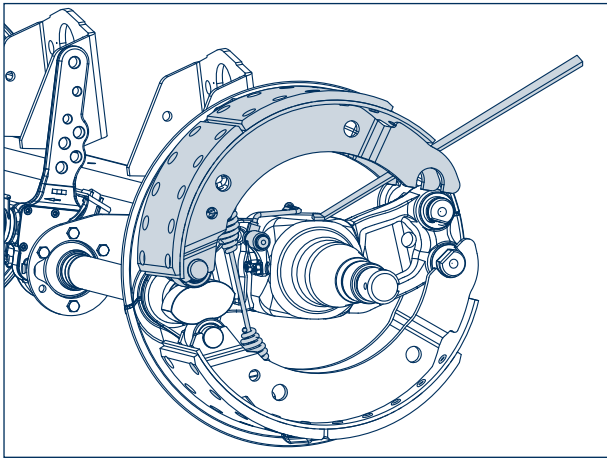

Figure 33
- [7] Raise the upper brake shoe by means of a crow-bar according to Fig. 33.